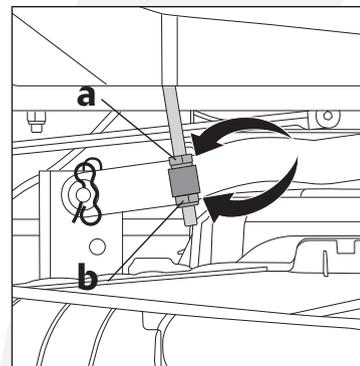
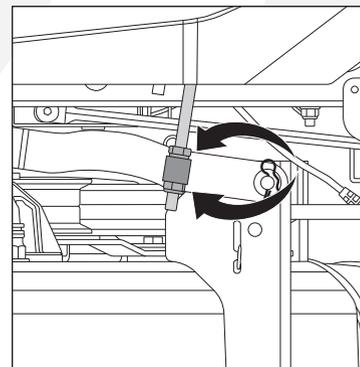

Fig. 24A
Fig. 24B
3. Turn the upper adjustment nuts (a) upward. Turn the lower adjustment nuts (b) up to lift or down to lower two sides of the cutting deck. (Fig.24A&Fig.24B)